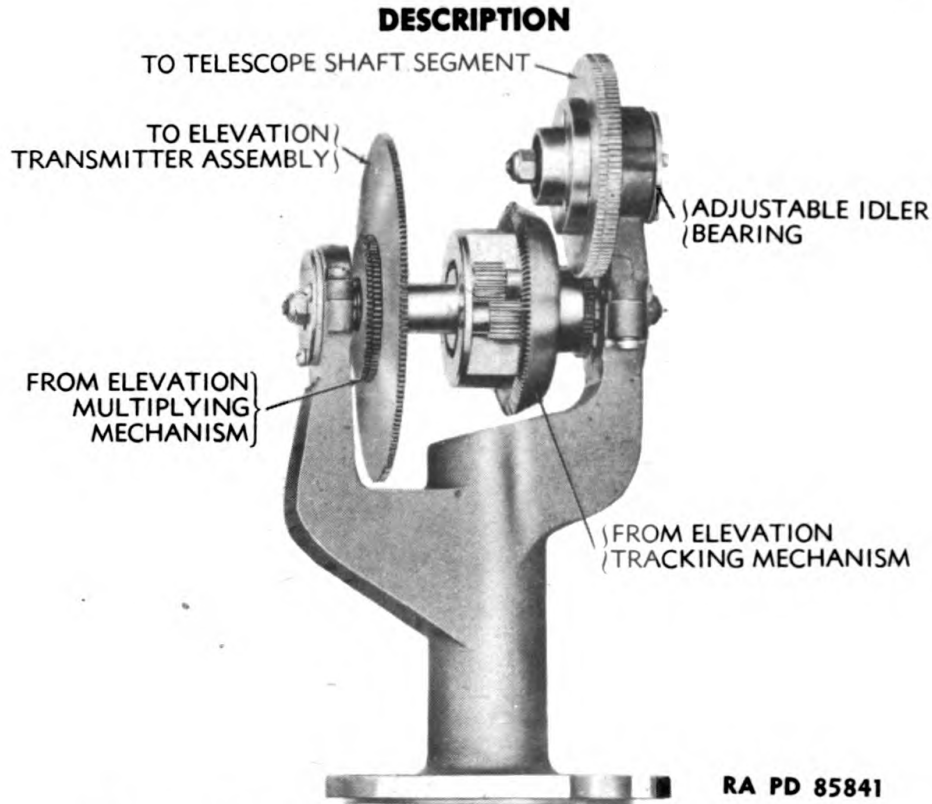

Figure 41 – Quadrant Elevation Mechanism D43783
g. Quadrant Elevation Mechanism (fig. 41). The quadrant elevation differential is equipped with suitable bracket and gears. An adjustable idler on this mechanism transmits target elevation to the telescope shaft. The differential adds the target elevation (from the elevation tracking mechanism) and the deflection and super-elevation data received from the multiplying mechanism. Both input gears have the antibacklash feature described in paragraph 11 k. The out-